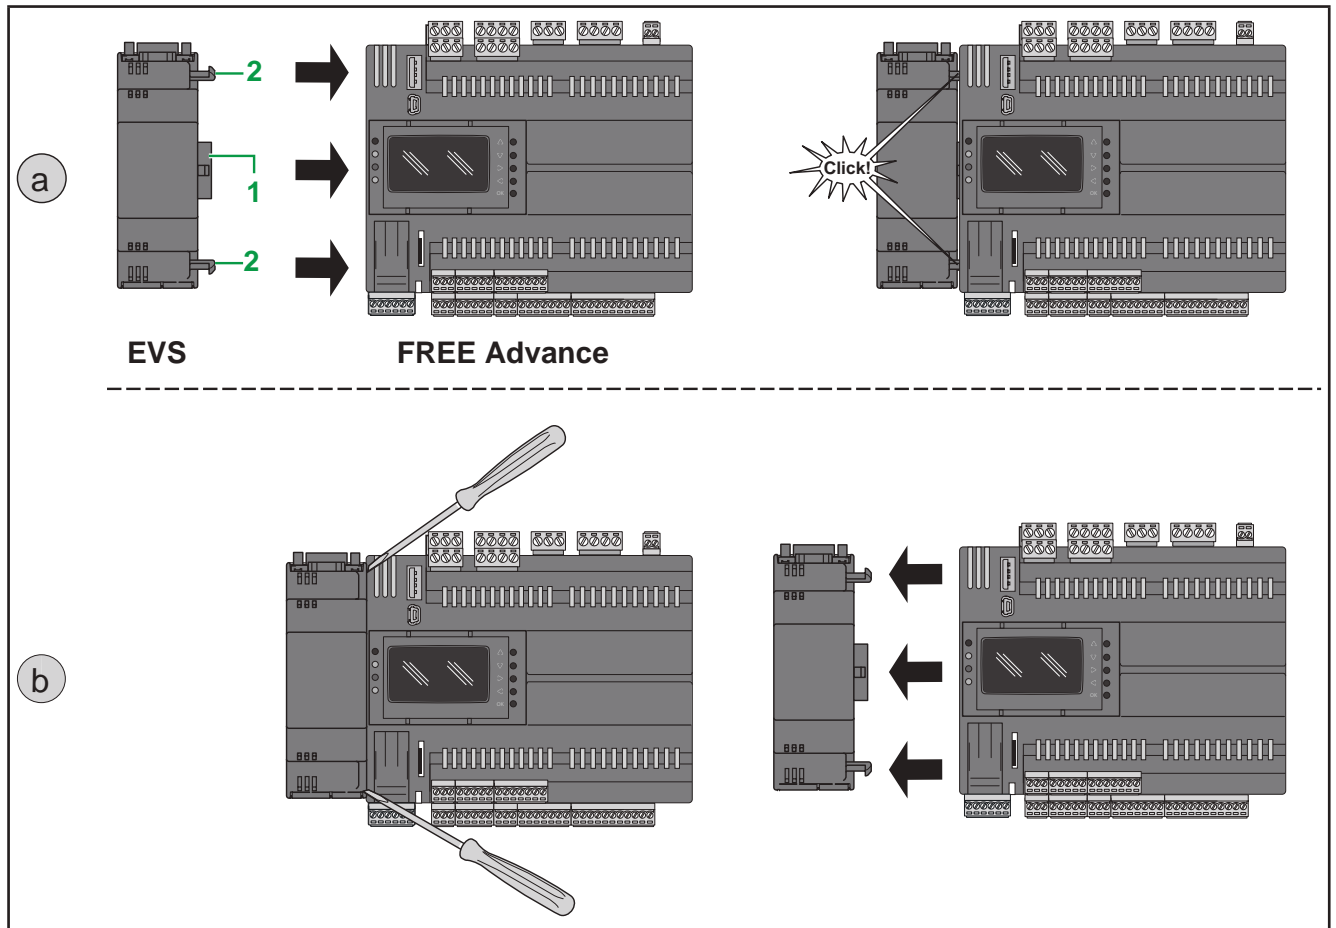

Fig. 9. Assembling (a) / Removing (b) the EVS Communication Modules
EVS Communication Modules are 2DIN modules that can be connected to an **FREE Advance** controller (see **Fig. 9** on page 25) to increase the number and/or type of communication ports.
1. via the Communication Module connector (see 1 in **Fig. 9** on page 25),
2. with the two fixing hooks (see 2 in **Fig. 9** on page 25) to which the Communication Module is anchored.